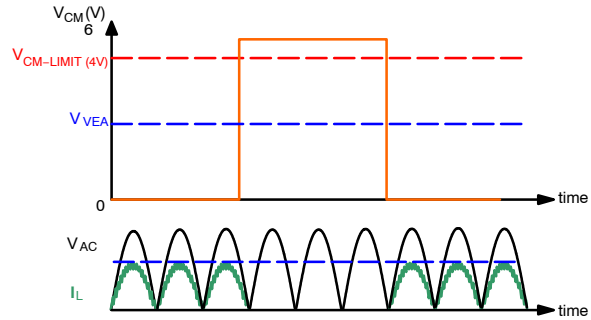
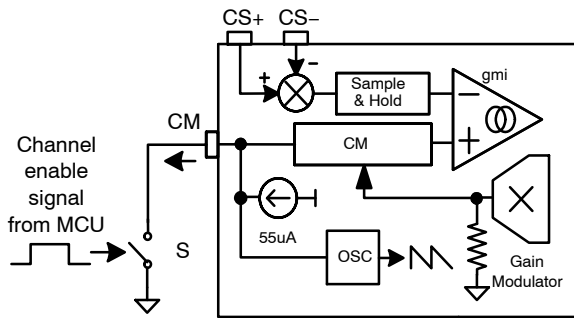

Figure 15. Channel Management by MCU
Figure 14. Channel Management by MCU
Channel Management (CM) function can also be accessed by an MCU through the connection shown in Figure 14. CM pins have internal pull-up current source. If  $V_{CM} > 4V$ , the channel is disabled. To enable the channel, make  $V_{CM} = 0V$ , as shown in Figure 15.